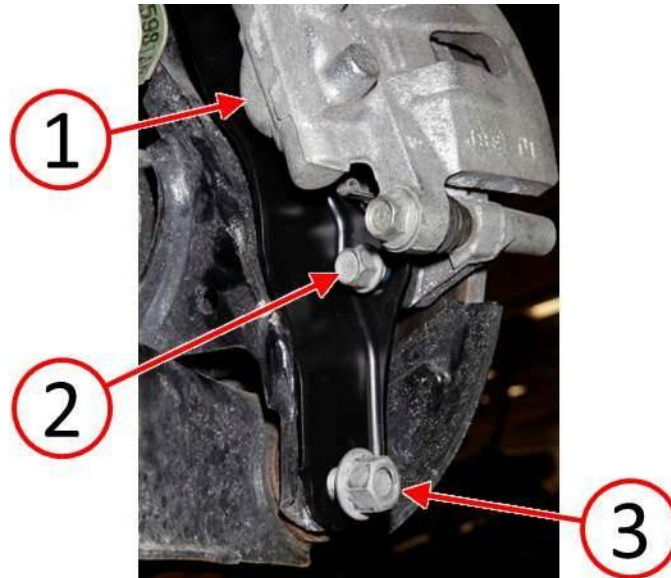

Fig. 3 Install Rear Brake Caliper
9. Install the brake caliper with caliper adapter (Fig. 3).
10. Install by hand but **do not tighten** both of the **NEW** longer caliper anchor mounting bolts included with the anti-vibration bracket service kit (Fig. 3).
11. Install by hand but **do not tighten** the **NEW** upper and lower control arm nuts included with the anti-vibration bracket service kit (Fig. 3).